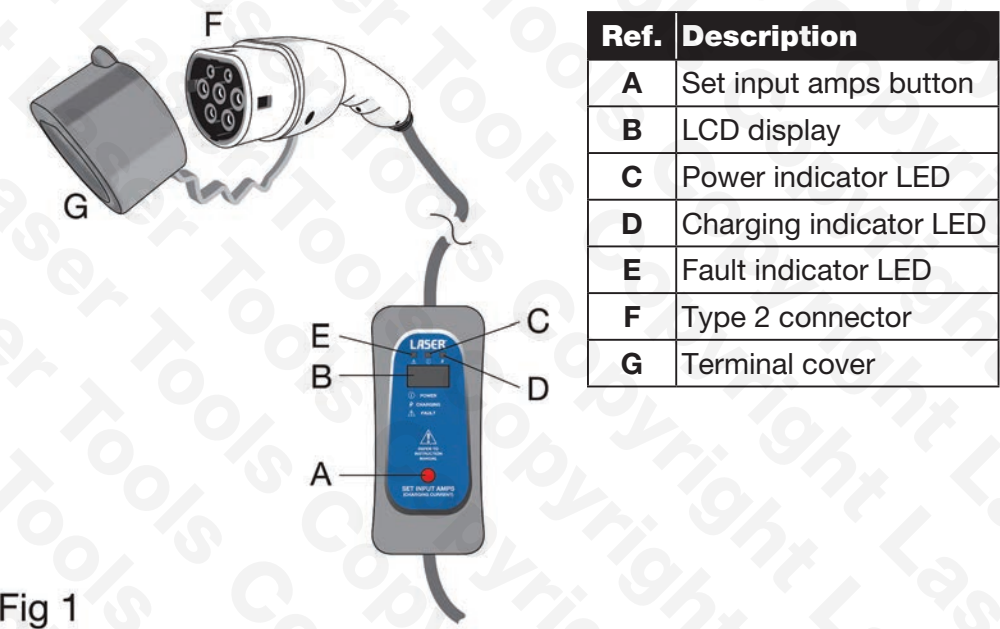

Fig 1
2. Refer to **Figure 1**: when the 3-pin socket is switched ON, the LCD display (B) activates and the power indicator LED (C) lights up green.